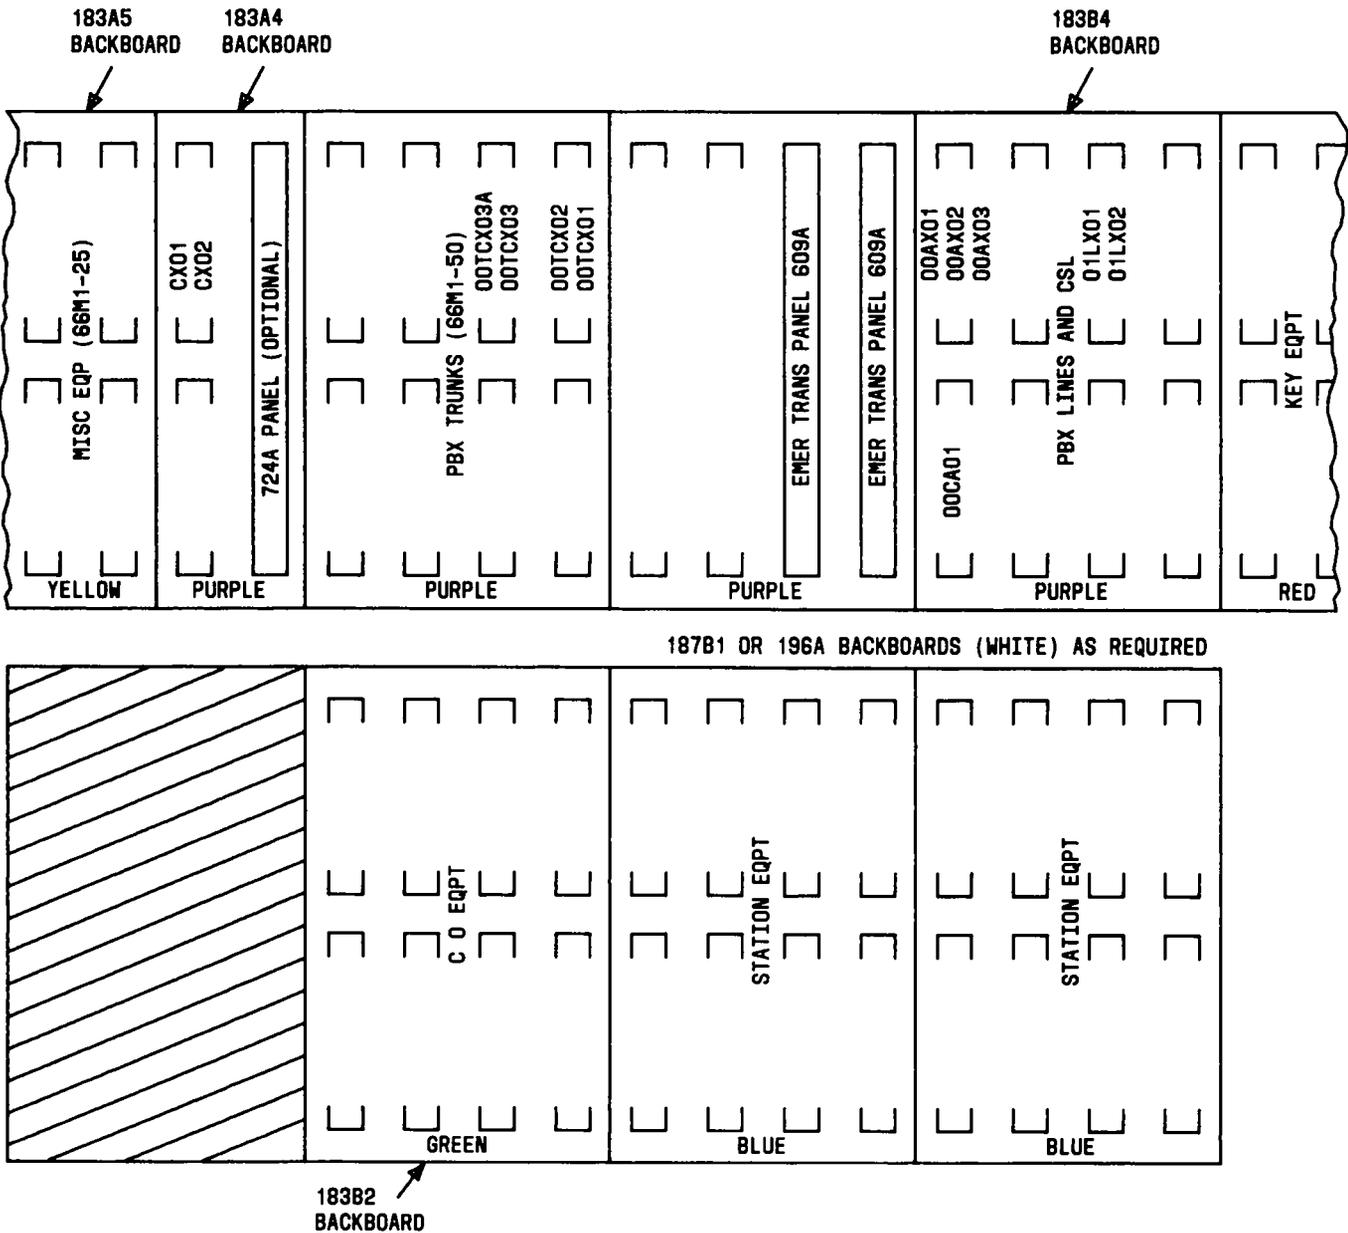

Fig. 9—Cross-Connect Field
5.03 Figure 9 shows a typical cross-connect field layout for a DIMENSION PRELUDE PBX
5.06 Prewired 609-type interface panels may be used to provide connections to emergency transfer facilities. Each 609A-type panel contains apparatus for transferring ten stations to ten CO cable pairs during power failure or alarm conditions. The panels should be mounted in the cross-connect field, as shown in Fig. 9, for ease of cross-connecting to the circuits. Trunks with terminal balancing treatment and power failure transfer service shall be cross-connected to allow the terminal balancing networks to remain in the circuit after power failure transfer.